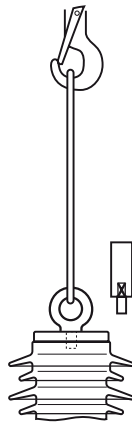

Fig. 2
- Hook rope as shown in Fig. 2.